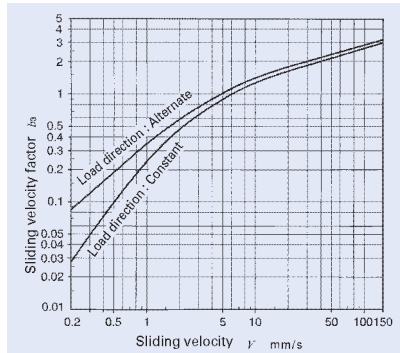

Fig.3 Sliding velocity factor
- b_3 : Sliding velocity factor (Refer to Fig.3.)
- C_{dt} : Dynamic load capacity considering temperature increase N (Refer to Formula (1).)
- P : Equivalent radial load N (Refer to Formula (2).)